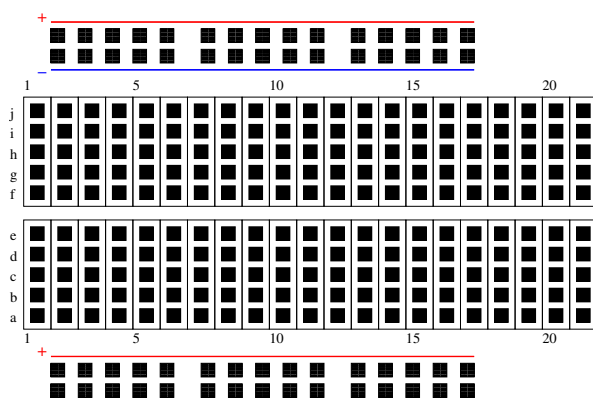

Figure 2.4: Breadboard
- A breadboard (we will be using Figure 2.4 as a guide).
the electrical subtleties or hazards. Taking Figure 2.4 as a reference, the breadboard has internal electrical connections that makes it possible to tie multiple components to a single point. It does so by representing a *physical* connection as multiple rows of the same column. That is: holes 1a and 1d are physically connected inside the breadboard’s circuitry, whereas 3d and 4a are not.
Each breadboard is divided by thick spaces among different sections. In Figure 2.4, there are four distinct sections: two with the + and – symbols, and two with numbers and letters. The latter was described above, whereas the former works in the opposite way: holes are connected with other holes in the same row. This section is often used to power the circuit, but more on that further in the practice.